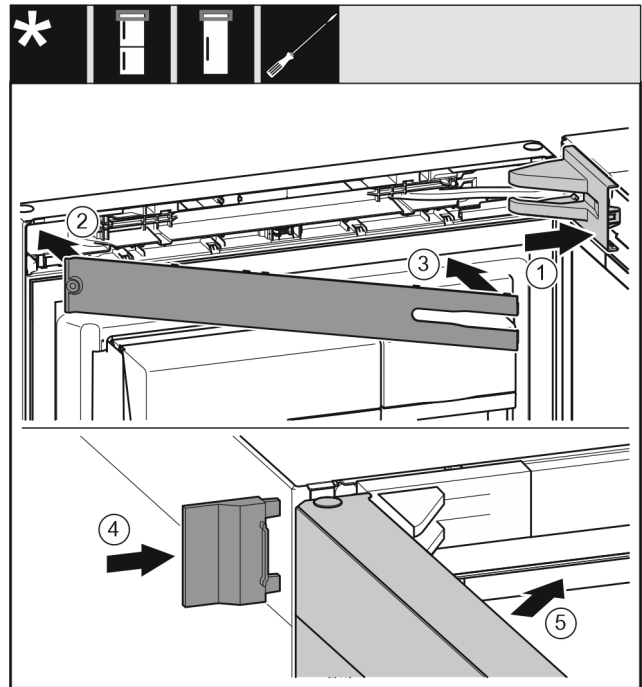

Fig. 28
- ▶ Position the bearing bracket cover and engage it. If necessary push it apart carefully. Fig. 28 (1)
- ▶ Place on the panel. Fig. 28 (2)
- ▶ Swing in the panel and latch it into place. Fig. 28 (3)
- ▶ Slide on the outer cover. Fig. 28 (4)
- ▶ Close the upper door. Fig. 28 (5)